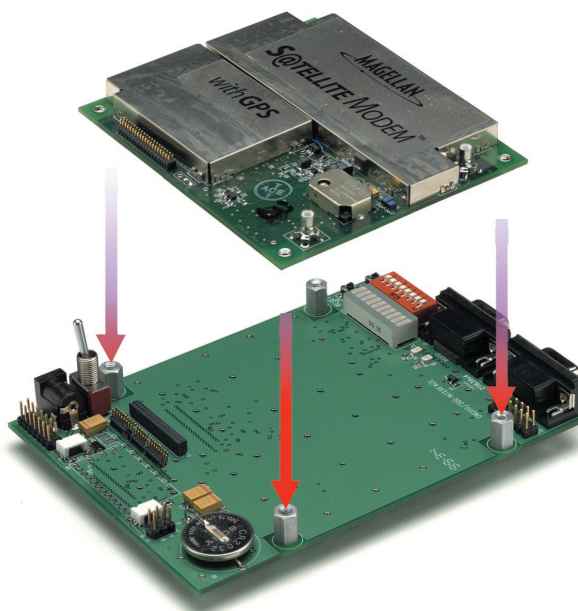

Figure 2.2. Controller Interface Board
Included in the S@tellite Modem Development Kit is a controller interface board (Figure 2.2) that the S@tellite Modem plugs into. This provides the following functions: DTR/DSR toggle switch, breakout connector providing access to all of the pins on the board, power regulator which supplies the modems required +12VDC and +5VDC, reset buttons to return the modem to the factory default parameters, eight toggle switches which exercise each corresponding digital input, output, and ORBCOMM & GPS serial ports.
- Power the unit by connecting the cable on the +12V power supply provided with the developer kit to the round power port (refer to figure 2.2) on the Controller Interface board. The +12V power supply then plugs into any standard AC outlet (US type).
etc. are printed on the interface board. If the jumpers are removed, you should replace them in their default positions. The functions of these jumpers are described in Figure 2.2.